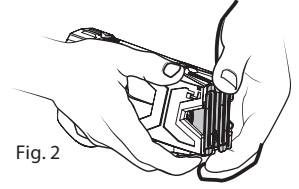

Fig. 2
- 2 Install the new battery pack and confirm that it is fully inserted into the X2 CEW (Fig.2).
- 5 Verify that the cartridge is secure by pulling on the tabs on the lower and upper part of the cartridge (Fig. 2).